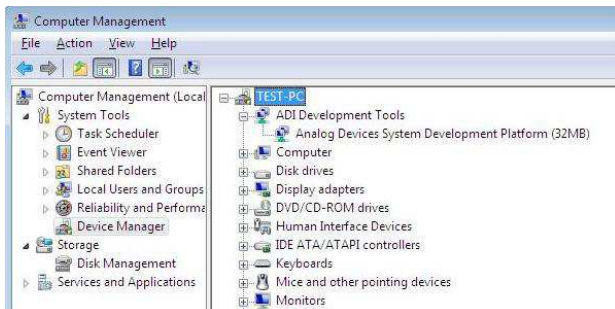

Figure 14. Device Manager: Checking That the Board Is Connected to the PC Correctly
- iii. The Computer Management window appears. Click **Device Manager** from the list of **System Tools** (see Figure 14).